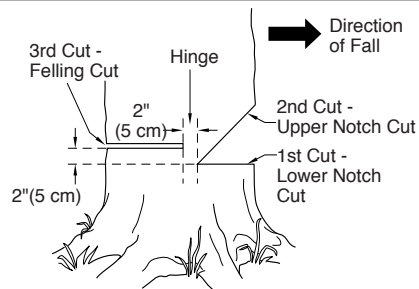

Figure 14 - Felling A Tree
A properly placed felling notch will determine direction tree will fall. Place felling notch on side of tree in direction you want tree to fall (see Figure 14). Follow directions below to create a felling notch.
1. Make lower notch cut as close to ground as possible. Hold saw so guide bar is horizontal. Cut 1/3 the diameter of tree trunk (see Figure 14). **Note:** Always make this horizontal lower notch cut first. If you make this cut second, tree can pinch chain or guide bar.
Example: If lower notch cut is eight inches deep, start upper notch cut eight inches above it. Cut downward at 45° angle. The upper notch cut should meet end of lower notch cut (see Figure 14).
WARNING: Do not cut all the way through tree. Leave about two inches of tree diameter uncut directly behind felling notch (see Figure 14). This uncut portion acts as a hinge. The hinge helps keep tree from twisting and falling in wrong direction.
1. Make felling cut two inches higher than lower notch cut and on opposite side of tree (see Figure 14). Keep felling cut parallel to lower notch cut.